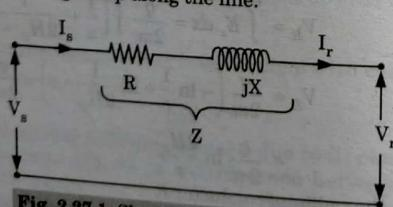

Fig. 2.27.1. Short transmission-line model.
1. From the equivalent circuit of Fig. 2.27.1,
1. For the network shown in Fig. 2.27.1, we may write